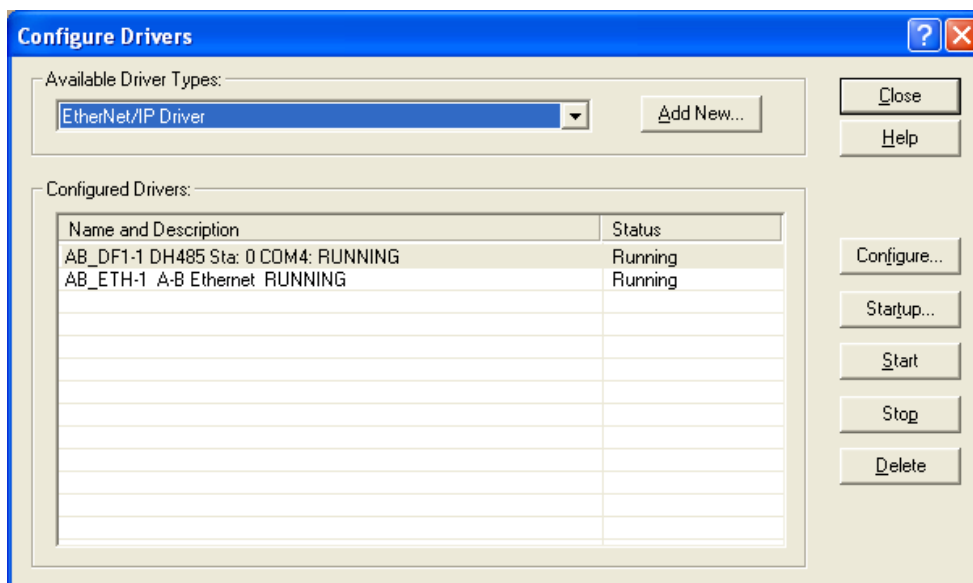

Figure 59: RSLinx Add New EtherNet/IP Driver
- b) Select EtherNet/IP Driver and click Add New (see Figure 59).